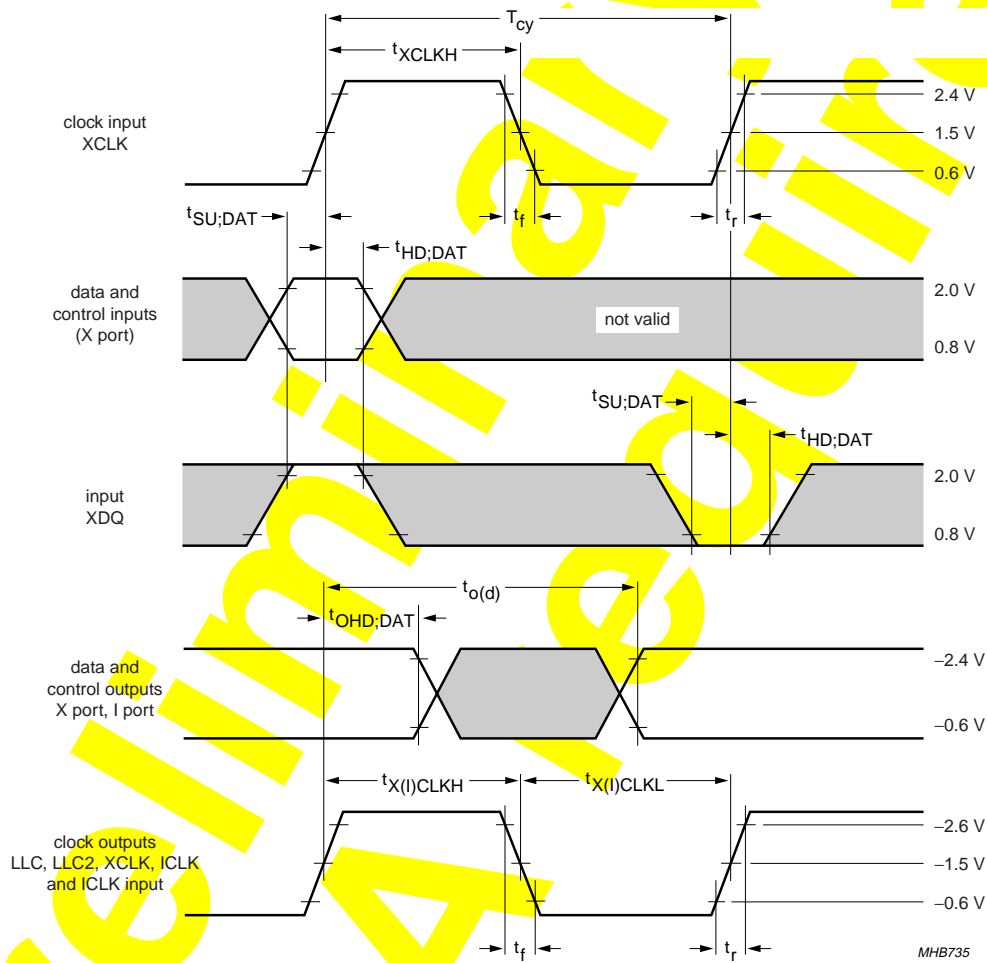

Fig.41 Data input/output timing diagram (X-port, RT port and I-port).
- The effects of rise and fall times are included in the calculation of  $t_{OHD:DAT}$  and  $t_{PD}$ . Timings and levels refer to drawings and conditions illustrated in Fig.41.